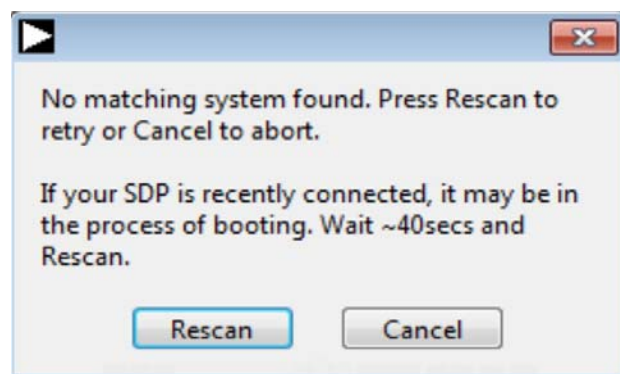

Figure 17. Connectivity Error Alert 1
- a. If the evaluation system is not connected to the USB port via the EVAL-SDP-CH1Z when the software is launched, a connectivity error displays (see Figure 17).